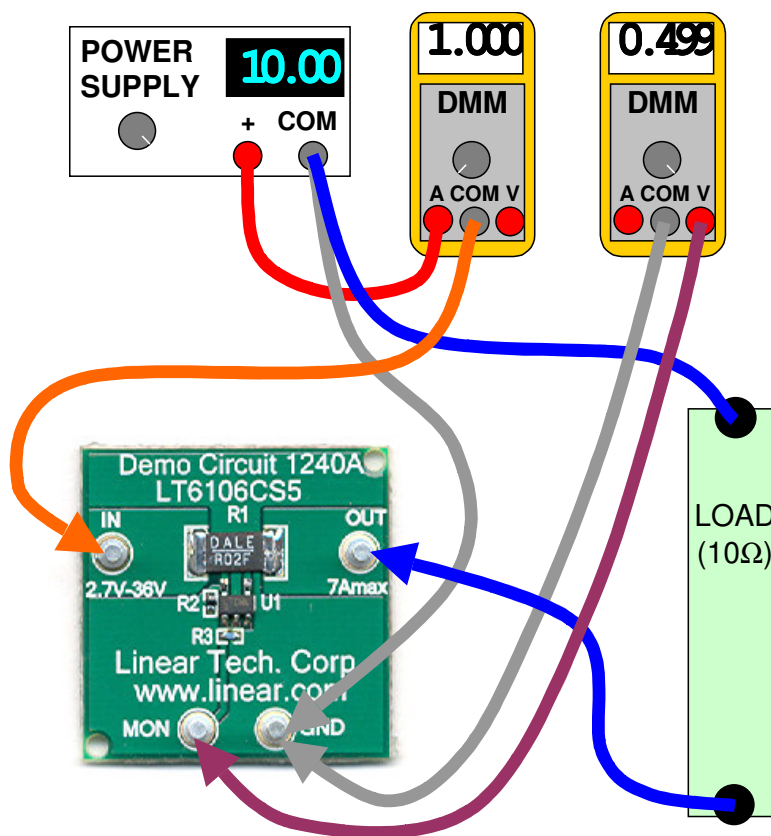

Figure 1. Proper Measurement Equipment Setup
Demonstration circuit 1240 is easy to set up to evaluate the performance of the LT6106. Refer to Figure 1 for proper measurement equipment setup and follow the procedure below:
1. With power off, connect the power supply positive to IN and the common to GND. This supply should be in the range of 2.7V to 36V. If this supply is not equipped with an accurate current readout, a DMM (set to measure Amperes) may be connected in series with the supply as shown in Figure 1.